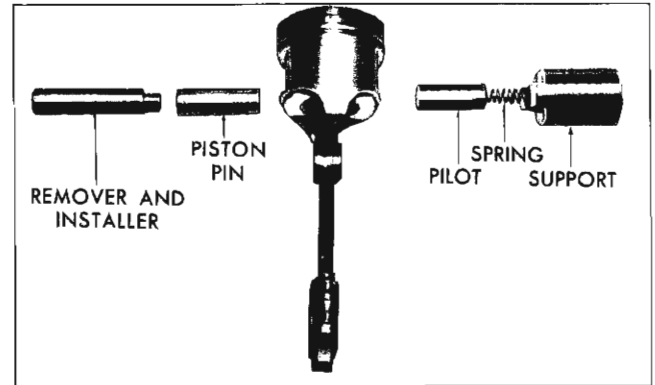

Fig. 56—Piston Pin Installation
3. Install piston pin on installer and pilot spring and pilot in support (fig. 56).